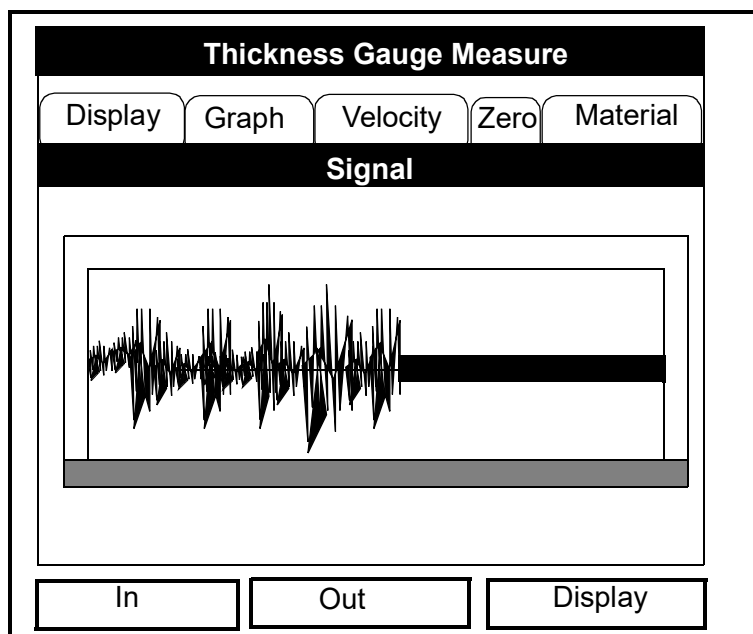

Figure 136: The Graph Window in Zoom Format
Press **[F2]** (Cancel) or **[F3]** (OK) to return to Operate Mode, or press the [▶] arrow key to move to another window in the option. However, if you wish to adjust the graph, press the [▼] key. The screen now appears similar to Figure 136 on the next page.